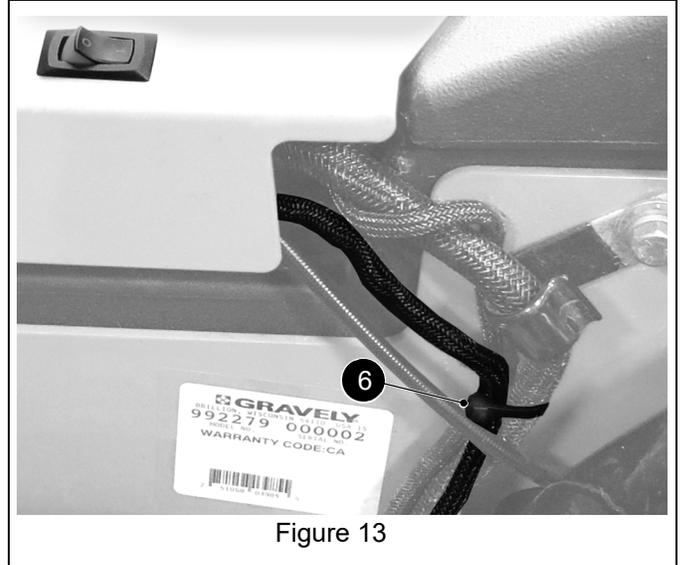

Figure 13
15. Press switch firmly into switch hole until it snaps into position. Secure headlight harness to main harness with cable tie (item 6). See Figure 13.